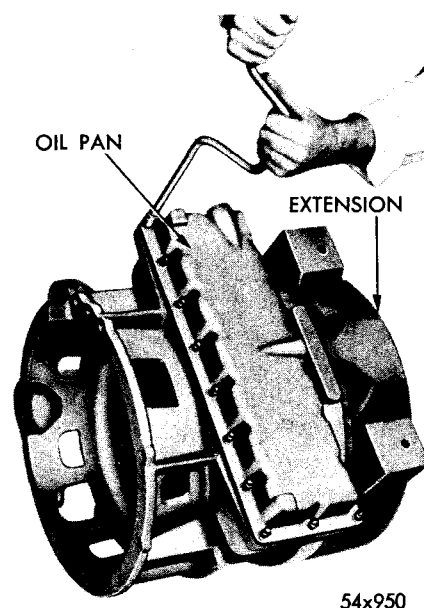
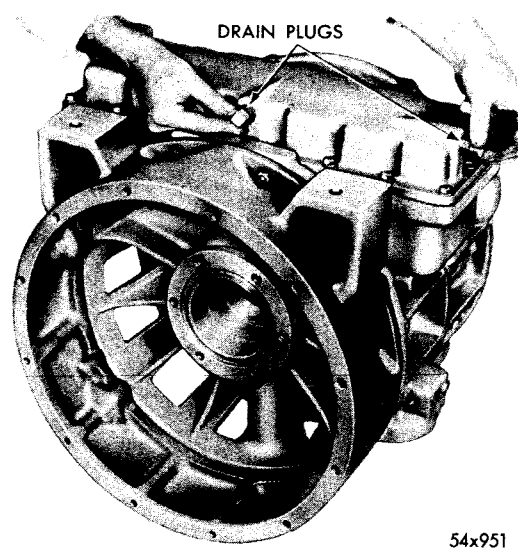
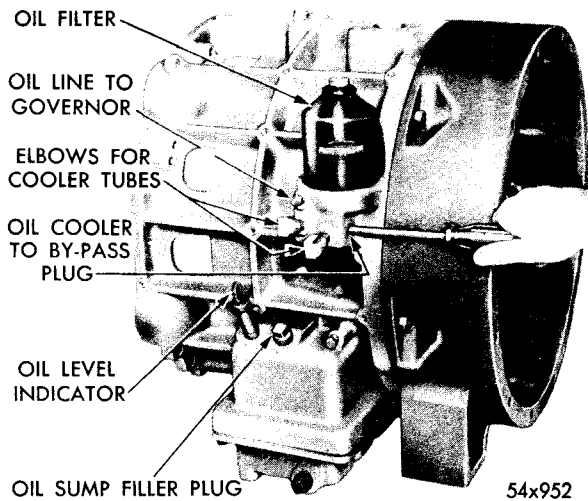
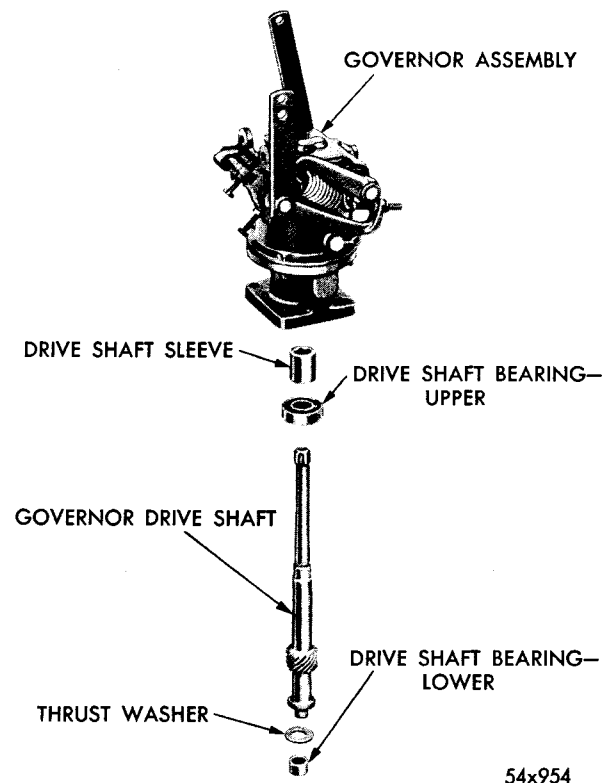

Fig. 20—Removing or Installing the Oil Pan
Fig. 21—Removing or Installing the Oil Pan Drain Plugs
Fig. 22—Removing or Installing the Oil Cooler By-Pass Plug
Fig. 24—Governor with Drive Shaft
- (1) Drain the oil from the oil pan, on the bottom of the Torque Converter Housing, by removing the two oil pan drain plugs, as shown in Figure 21.
- (2) After the oil is drained, remove the rear and external oil gallery plugs, the oil pump filler plug, and the oil level assembly.
- (3) Disconnect the oil-water cooler tubes, from the adapters on the side of the Converter Housing, and remove the two brass elbows, as shown in Figure 22.
- (4) Install a lifting bracket on the top of the Torque Converter Housing and tighten securely.
- (5) Attach a hoist, or chainfall to the lifting bracket and take up the slack.
- (6) Remove the bolts attaching the Torque Converter Housing to the adapter plate, and with the chainfall, lift the housing from the engine.
- (7) Place the Converter Housing on a clean bench with the oil pan side down.
- (8) Remove the governor, (if so equipped), shaft and the needle bearing from the Converter Housing, as shown in Figure 24.
- (9) Using a drift, push out the rivet and remove the upper drive shaft sleeve, and the shaft bearing from the Governor shaft.
- (10) Remove the oil pan, and discard the gasket, as shown in Figure 20.
- (13) Remove the oil cooler by-pass plug, as shown in Figure 22.
- (14) Remove the screws and lockwashers from the Turbine Shaft retainer in the rear of the Torque Converter, and remove the Turbine Shaft.
- (2) Install the oil pan so that the center plug hole faces the rear of the Converter Housing, as shown in Figure 20. Using a new gasket, start the bolts all around and tighten them from the middle of the oil pan to each end, 17 foot-pounds torque.
- (3) Install the oil pan drain plugs, as shown in Figure 21. Install the rear gallery plugs, the external gallery plug, and the oil pump
- (7) Install the oil cooler by-pass plug, as shown in Figure 22, and tighten securely.
- (9) Install the two brass elbows, for the oil cooler tubes, as shown in Figure 22, and tighten securely.
- (10) On the Torque Converter without the Governor, install the Governor gasket and cover plate over the Governor shaft recess and tighten the nuts.
- (11) On the Torque Converter with a Governor, fit the upper bearing on the upper drive shaft. Install the drive shaft sleeve to the
upper end of the drive shaft and rivet it to the drive shaft. Install the bronze thrust washer on the drive shaft, as shown in Figure 24.